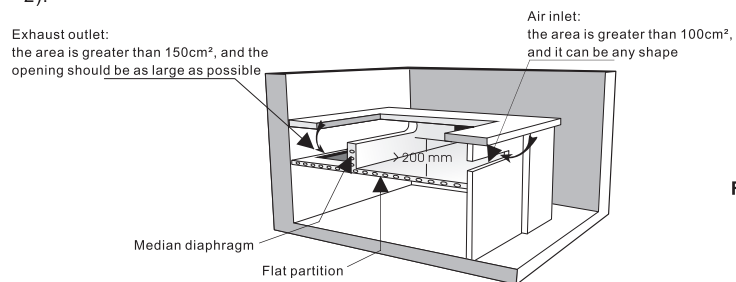

Figure 2
- Install a flat partition at the lower part of the opening, the installation position should be more than 200mm from the cabinet table, and a hole with an area of more than 150 square centimeters should be opened behind the flat partition. A longitudinal partition is installed in the center of the flat partition, and the distance between the vertex of the longitudinal partition and the cabinet table is 58mm. Open an air inlet larger than 100 cm2 at the lower part of the stove installation position on the front side of the cabinet, and the opening can be of any shape (as shown in Figure 2).